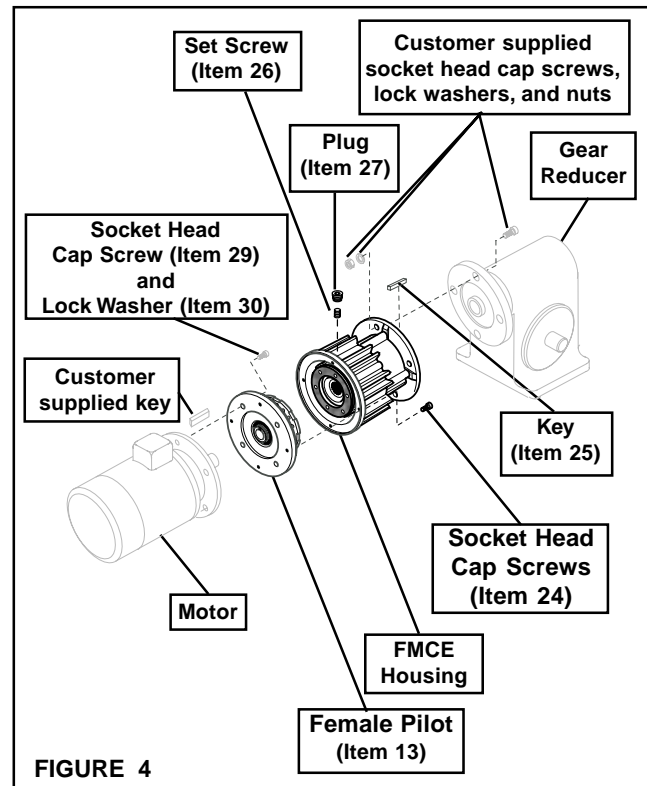

FIGURE 4
1. Insert the Key (Item 25) into the output shaft of the FMCE (See Figure 4).
2. Slide the FMCE output shaft into the gear reducer (See Figure 4).
3. Secure the FMCE to the gear reducer using customer supplied socket head cap screws, lock washers, and nuts (See Figure 4).
4. Insert the customer supplied key into the motor shaft keyway (See Figure 4).
5. Remove the Socket Head Cap Screws (Item 24) and the Female Pilot (Item 13); then, secure the Female Pilot to the motor face using Nexen supplied Socket Head Cap Screws (Item 29) and Lock Washers (Item 30); then, alternately and evenly tighten the Socket Head Cap Screws to the recommended torque (See Figure 4 and Table 2).
6. Slide the Female Pilot (Item 13) onto the motor shaft (See Figure 4).
7. Apply a drop of Loctite® 242 to the threads of the Socket Head Cap Screws (Item 24) (See Figure 4).
8. Secure the FMCE Housing (Item 1) to the FMCE Air Inlet (Item 13) using Socket Head Caps Screws (Item 24). Then, alternately and evenly tighten the Socket Head Cap Screws to the recommended torque (See Figure 4 and Table 2).
9. Align the Set Screw (Item 26) in the Drive Disc (Item 4) with the hole in the FMCE Housing (See Figure 4).
10. Tighten the Set Screw (Item 26); then, install the Plug (Item 27) (See Figure 4).